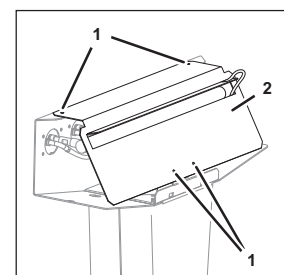

Fig. 33
1. Remove the fastening bolts (Fig. 33/1) from the retaining plate (Fig. 33/2).
2. To the extent permitted by the electrical cables, lift the retaining plate (Fig. 33/2) from the unit.
6. Position the retaining plate (Fig. 33/2) on the unit.
7. Attach the retaining plate (Fig. 33/2) using the fastening bolts (Fig. 33/1).